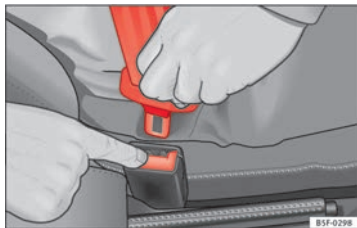

Fig. 12 Remove latch plate from buckle.
- Press the red button on the belt buckle ⇒ Fig. 12. The latch plate is released and springs out ⇒ ⚠.